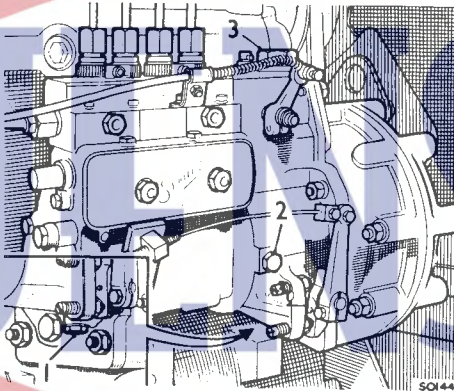

Fig. 47
FUEL INJECTION PUMP: To drain the pump, remove the drain plug (1). Remove the level plug (2) and the filler plug (3). Fill the pump with new oil till it just runs from the level plug (2) hole. This should be done every 200 hours. (Fig. 47).